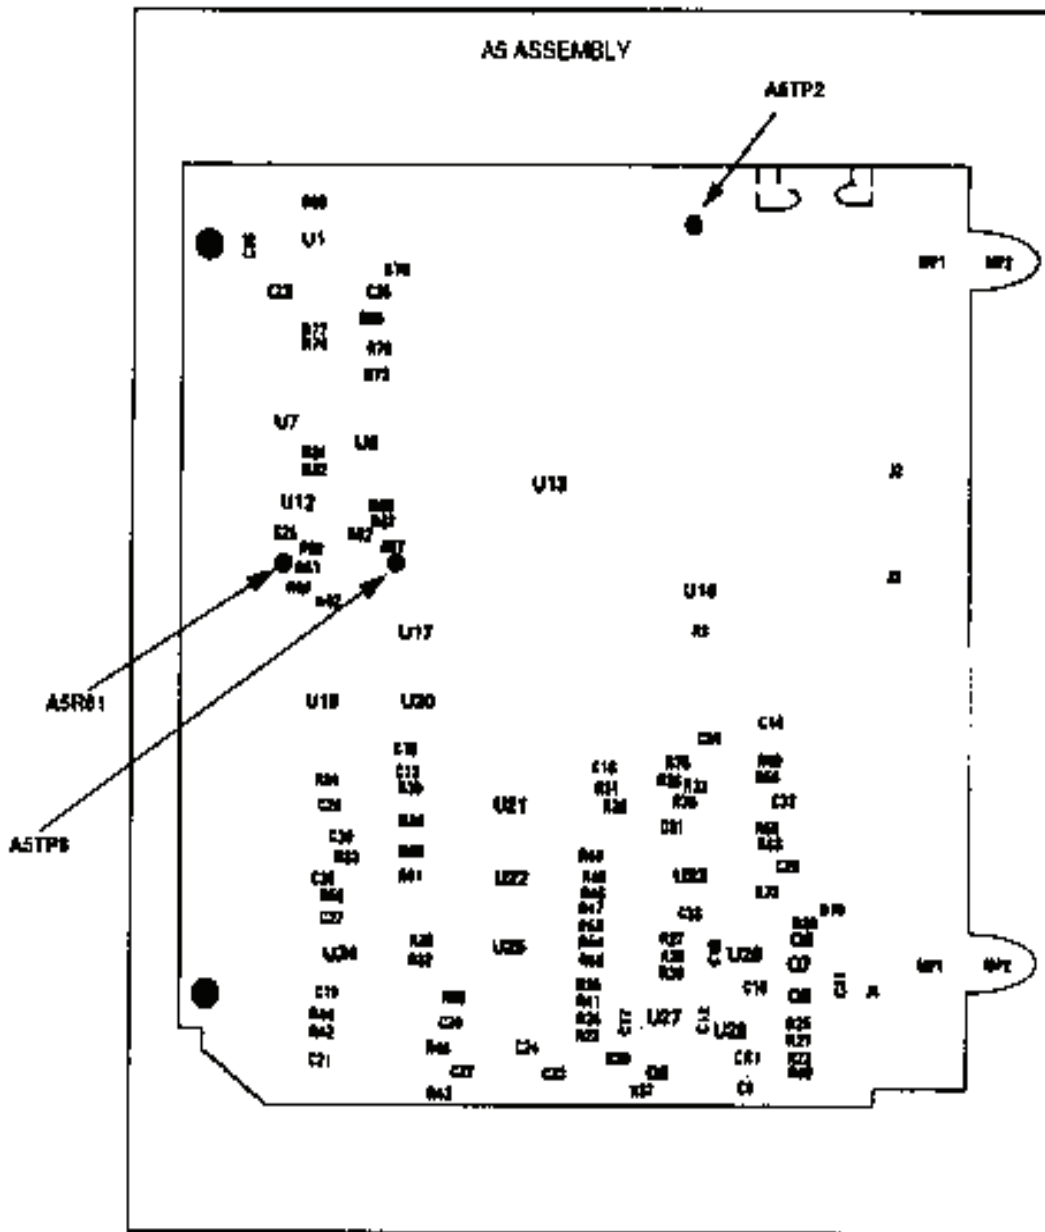

Figure 2. A5 component location.
- (8) Connect multimeter (dc mode) negative lead to A5TP2 (fig. 2) and then connect digital multimeter positive lead to A5TP8 (fig. 2)
- (9) Record multimeter indication.
- (10) Enter multimeter indication recorded in (9) above into power meter by pressing five digits (four decimal places) with TI keyboard and then by pressing **ENTER** key.
- (11) Adjust A5R61 (fig. 2) for a TI display indication centered as close as possible to zero (R).